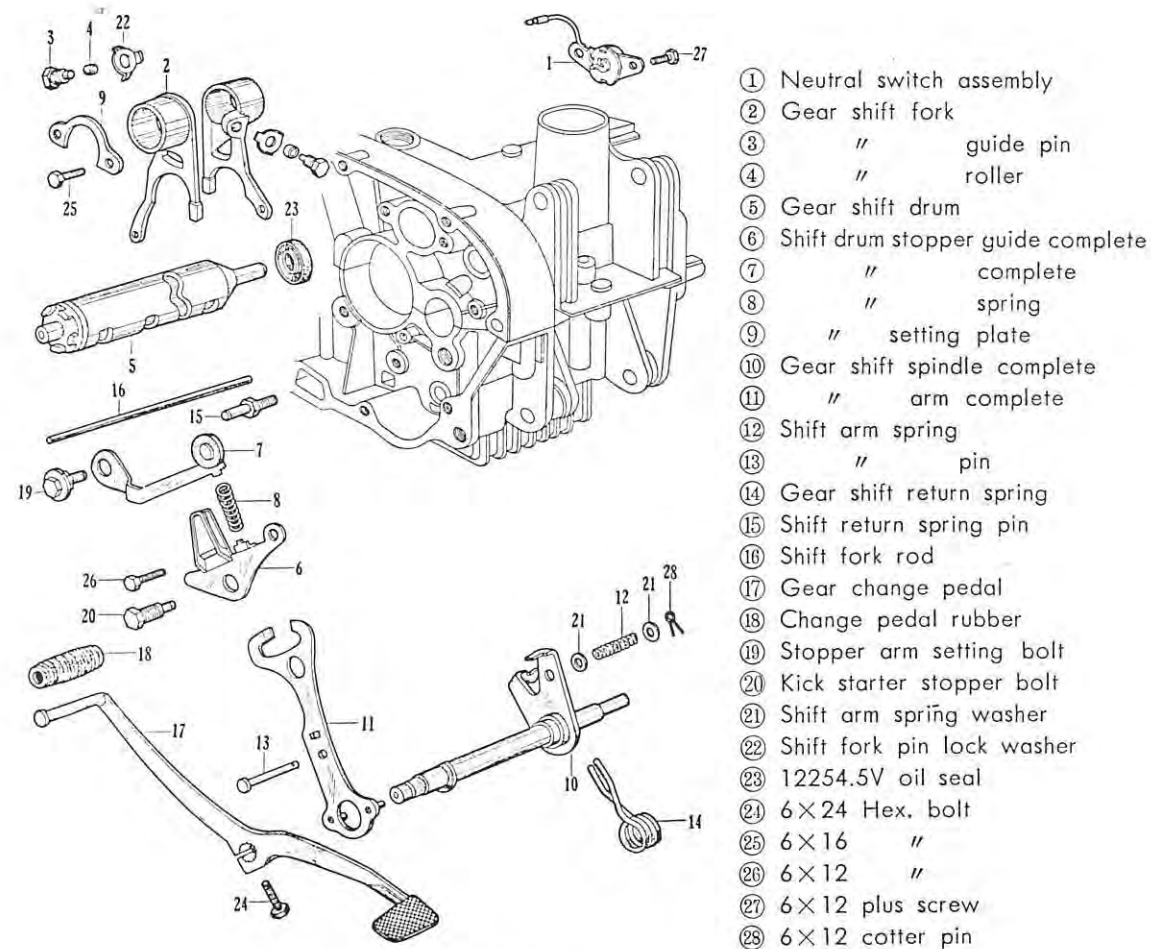

Fig. 3-11.
Besides, there is equipped a switch to indicate neutral state, which put light on a indicator lamp when the rotary switch combined on the shift drum is in neutral state. The shift mechanism to actuate the above mentioned counter shaft 2 gear and the main shaft 3 gear is explained as follows. In Fig. 3-11 when the gear change pedal (17) is pushed down, the gear shift spindle (10) is turned, and consequently the gear shift arm (11) will turn the drum (5) being pushed by the protrusion on the left end of this gear shift drum.